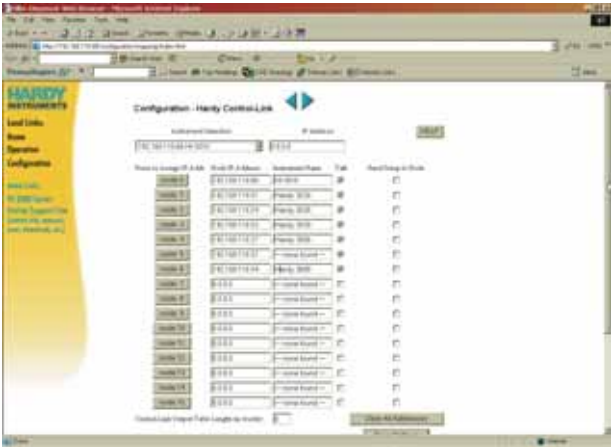

FIG. 100: CONFIGURATION - HARDY CONTROL-LINK PAGE
- Step 2. Click on “Hardy Control-Link”. The Configuration - Hardy-Link Page appears. (See Fig. 100)